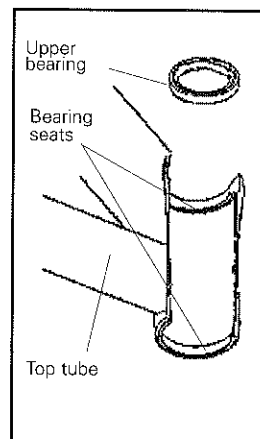

Fig. 36
2. Use a sharp knife to scrape off any residual adhesive from the bearing seat surfaces (Fig. 36). Be careful not to scrape off any aluminum or mar the surfaces in any way.